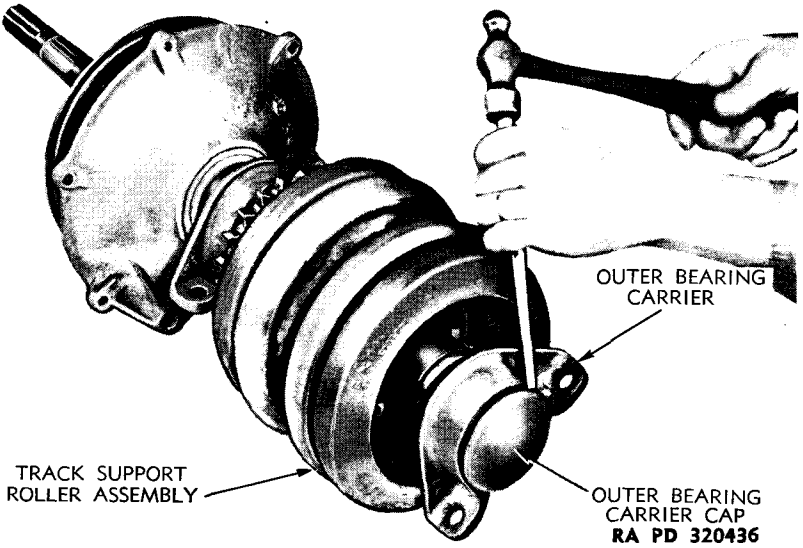

Figure 25 — Removing Outer Bearing Carrier Cap
a. Remove Outer Bearing Carrier. Drive outer bearing carrier cap from bearing carrier (fig. 25). NOTE: *Prying off cap might result in damage to cap.* Remove cotter pin from end of final drive shaft.